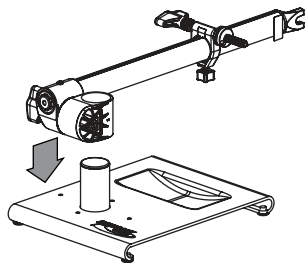

FIG. 2
2. Slide the Mast Assembly (C) over the Base (A). (FIG.2)